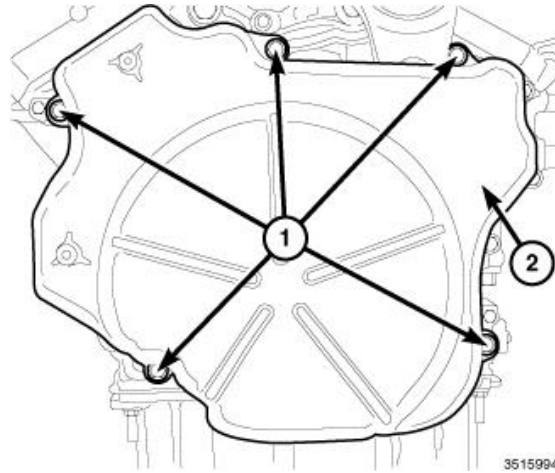

Figure 1 – Vibration Damper Cover
109. Install the transmission splash shield and tighten bolts to 28 N·m (21 ft. lbs.) (Figure 1).
2. Remove the bolts (1) and the vibration damper cover (2) (Figure 1).